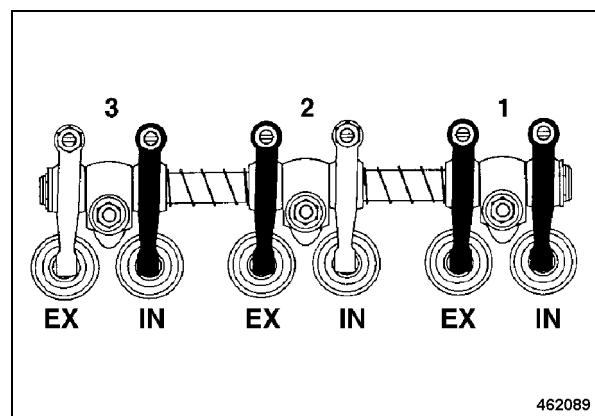

Fig. 121
- Perform the adjustment of the valve by following the adjustment diagram 2" (Fig. 121), black mark.